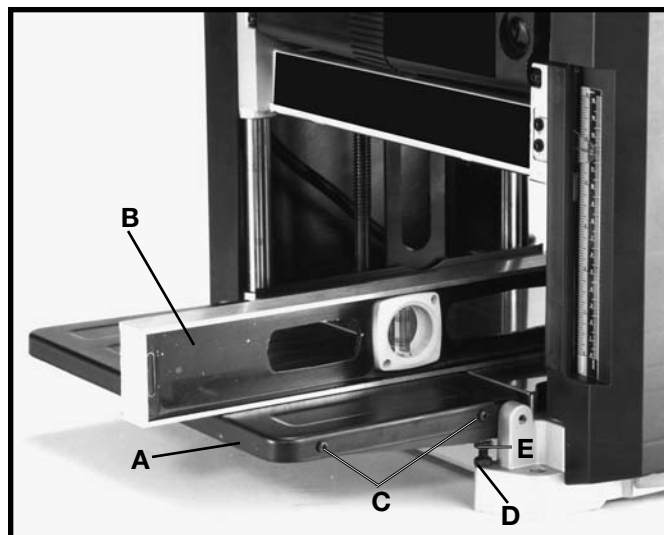

Fig. 19
The table extensions, one of which is shown at (A) Fig. 19, must be level with the planer table. To check and adjust if necessary, proceed as follows:
1. Place a straight edge (B) Fig. 19, on the planer table with one end of the straight edge extending out over the infeed table extension (A) as shown. Check to see if the table extension is level with the planer table on both ends of table extension.
2. If an adjustment is necessary, loosen locknut (D) and adjust stop screw (E) on each end of the table (A) until table extension is level with planer table. Then tighten locknut. Recheck and make certain inside edge of table extension is level with planer table. **NOTE: If necessary, loosen two screws (C), adjust table extension and tighten two screws.**
3. Adjust opposite end of table extension (A) in the same manner. Make sure table is solidly supported in the level position.